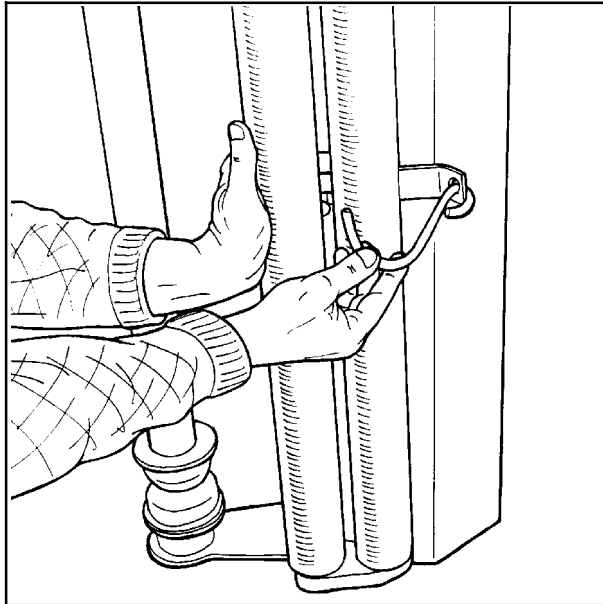

Fig. 6-1
6.1 When the plastic roll shall be mounted, you have to hold the prestretcher-rollers aside, Hold the rollers aside and put on the holding hook. (See fig. 6-1).